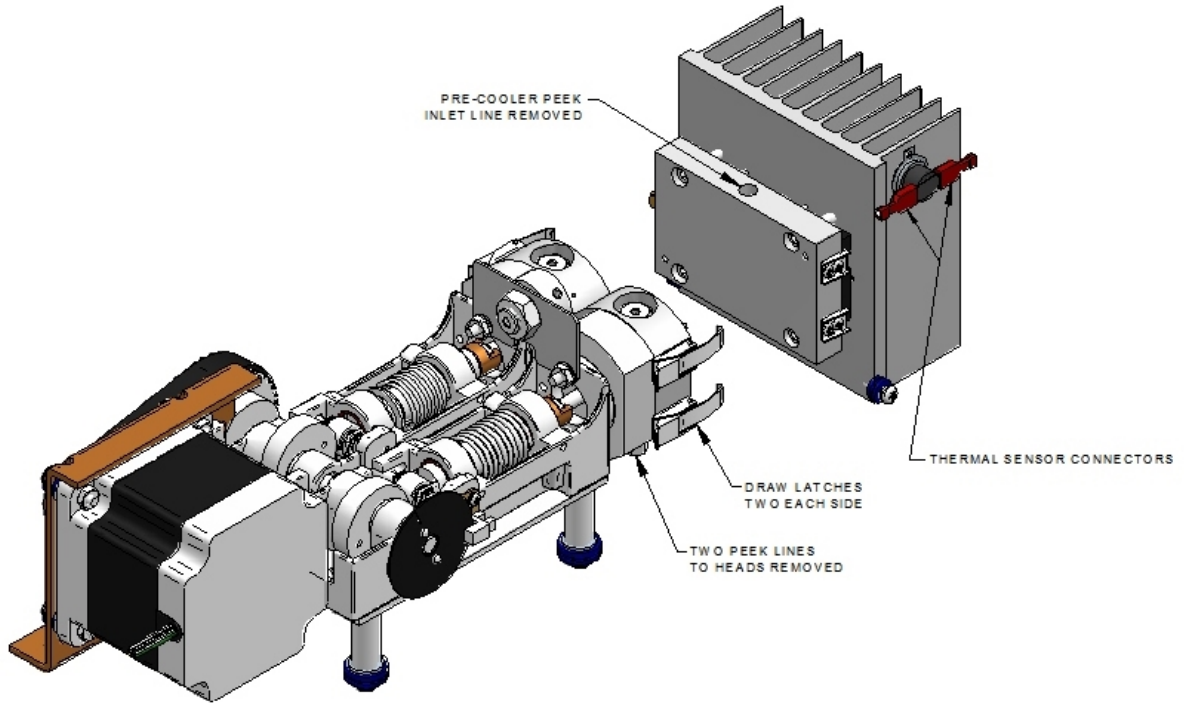

Figure 4-1 Heatsink/Peltier/Pre-Cooler Removal
1. Apply a thin, even coating of thermal grease to face of pre-cooler where it mates with the pump heads. Reference figure 4-1 for orientation of assembly.